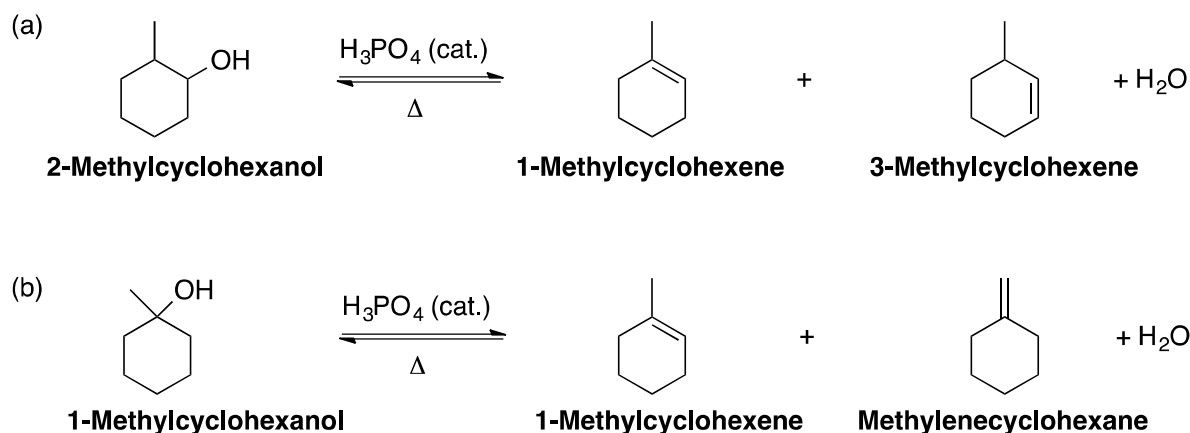

Figure 1. Dehydration of methylcyclohexanols.
In this experiment, students will perform the acid-catalyzed dehydration of either **1-** or **2-methylcyclohexanol** (**Figure 1**). The elimination reactions have two theoretically possible regioisomeric products. The major and minor products can be predicted according to Zaitsev's rule, which states that a more highly substituted alkene is more stable and favored. Students will use gas chromatography (GC) to analyze the reaction mixture and compare to the retention times of commercially available standards to confirm their hypotheses. In addition, students will confirm the presence of an alkene in their product with the potassium permanganate (KMnO₄) chemical test. KMnO₄ is lovingly called the "Barney reaction." It starts off dark purple and will turn brown with the formation of a precipitate (MnO). Refer to the McMurry text for further discussion of the permanganate-mediated oxidative cleavage reaction.
- **Purpose:** Draw both reaction schemes from **Figure 1**. Circle your assigned reaction in lab.
- **Reagent Table:** Make a table with amounts physical properties of each alcohol and alkene in **Figure 1** as well as for H_3PO_4 . This includes amount (mg or mL), mmol, MW, bp or mp, density, and a one-word hazard if applicable (irritant, corrosive, etc.)